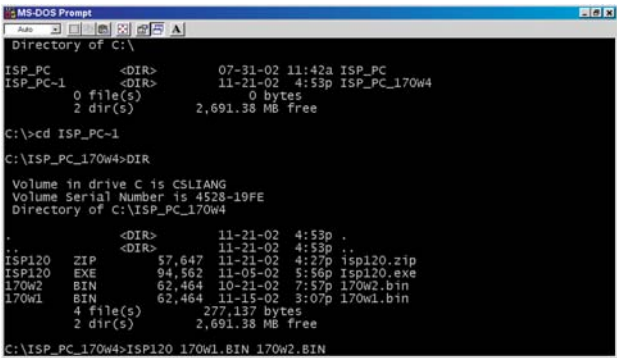

Fig. 6
Step 5 : Execute ISP Software in Monitor (A) as shown in Fig. 6 & 7.
(fill out "SP\_PC\_170W4>ISP120 170W1.BIN 170W2.BIN" as shown in Fig. 6)